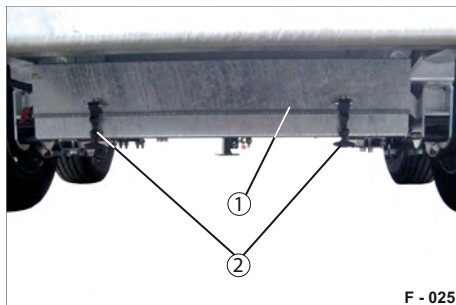

Fig. 29 Electro-hydraulic unit, closed
- Open the fasteners (Fig. 29/2).
- Fold the cover (Fig. 29/1) upwards.